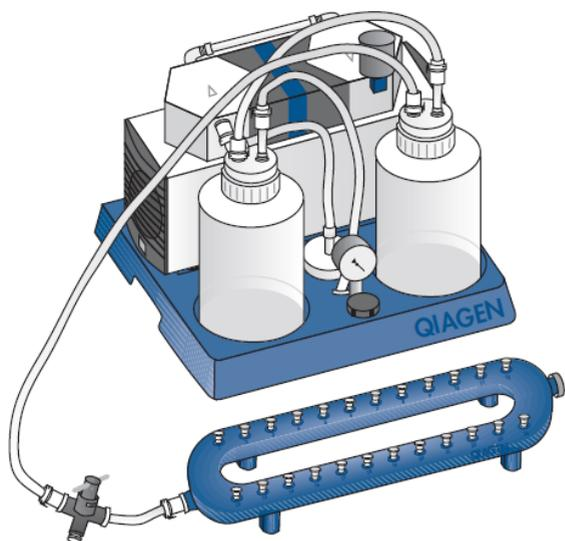

Figure 3. QIAvac 24 Plus, QIAvac Connecting System and Vacuum Pump.
QIAamp Mini columns are processed on the QIAvac 24 Plus using disposable VacConnectors and reusable VacValves. VacValves (optional) are inserted directly into the luer slots of the QIAvac 24 Plus manifold and ensure a steady flow rate, facilitating parallel processing of samples of different natures (e.g., blood and body fluids), volumes or viscosities. They should be used if sample flow rates differ significantly to ensure consistent vacuum. VacConnectors are disposable connectors that fit between QIAamp Mini columns and VacValves or between the QIAamp Mini columns and the luer slots of the QIAvac 24 Plus. They prevent direct contact between the spin column and VacValve during purification, thereby avoiding any cross-contamination between samples. VacConnectors are discarded after a single use. Due to the large solution volumes used, the QIAvac Connecting System (or similar setup with waste bottles) is required (see Figure 3).
3. Insert a VacConnector into each VacValve (see Figure 3).